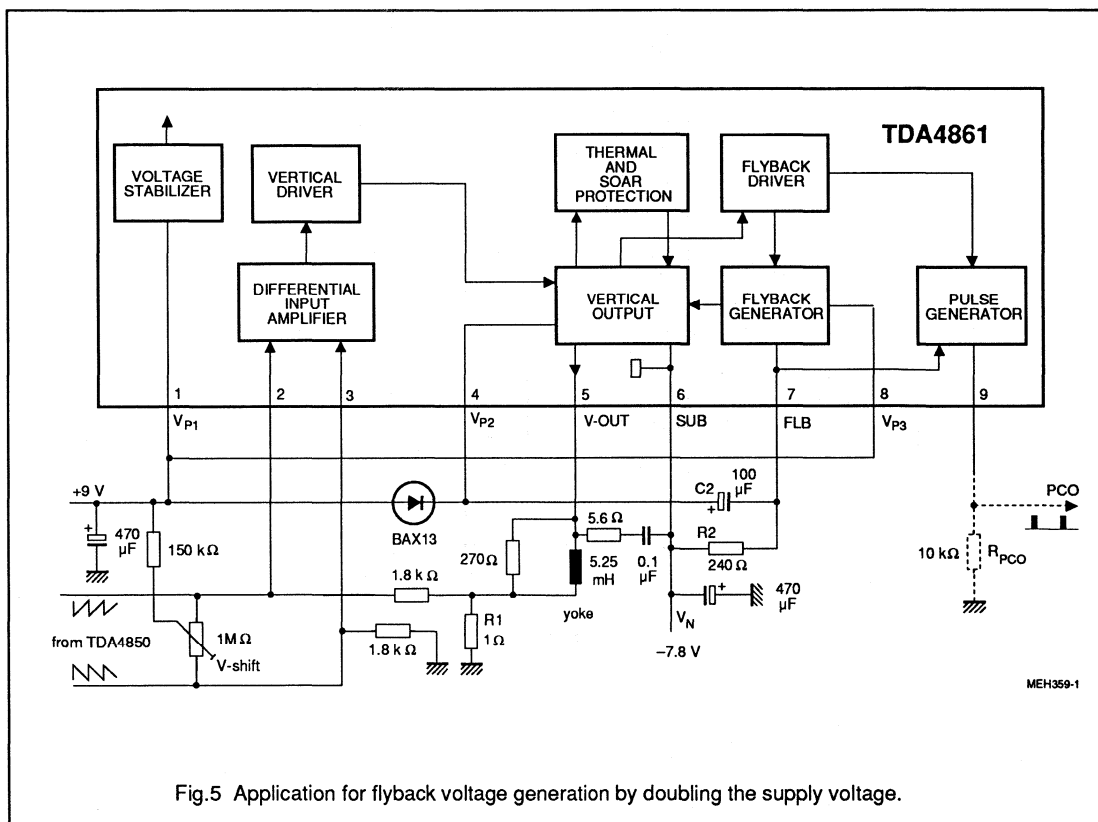

Fig.5 Application for flyback voltage generation by doubling the supply voltage.
- the flyback voltage is generated by doubling the supply voltage (Fig.5). The 100 μ F capacitor C2 between pins 4 and 7 is charged up to V_{P1} during scan, using the external diode and the resistor R2. The cathode of the capacitor C2 is connected to the positive rail during flyback. Thus, the flyback voltage is double the supply voltage.